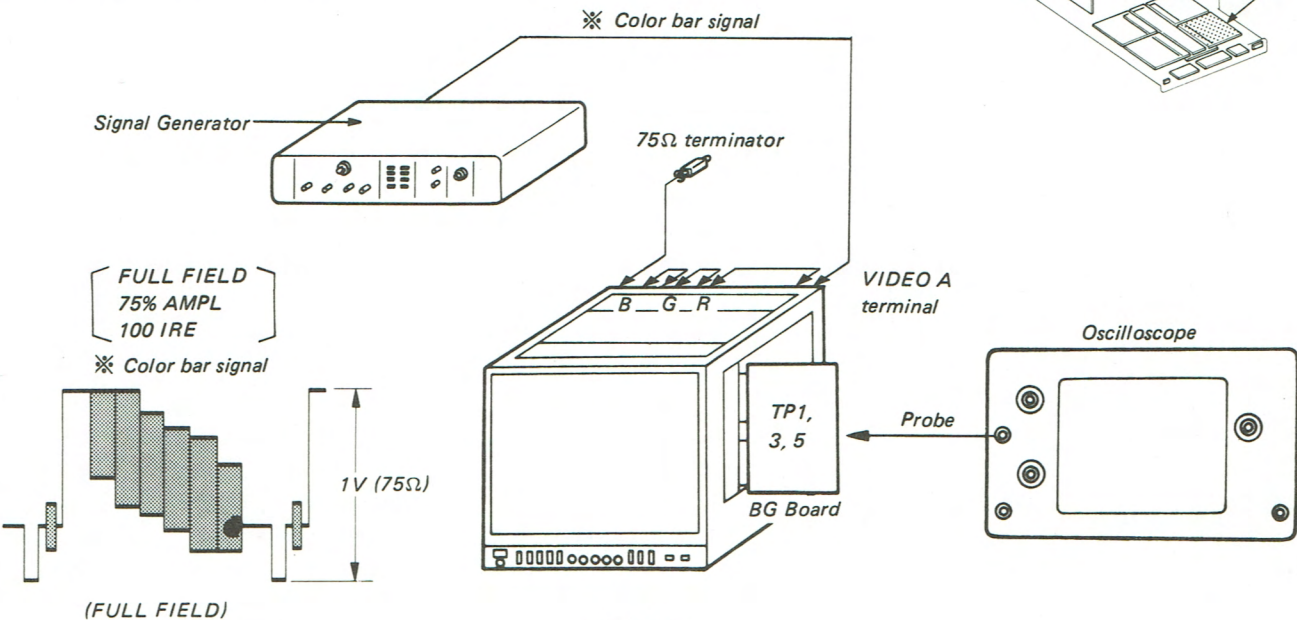

Fig. 32-1.
1. Connect as shown in Fig. 32-1.